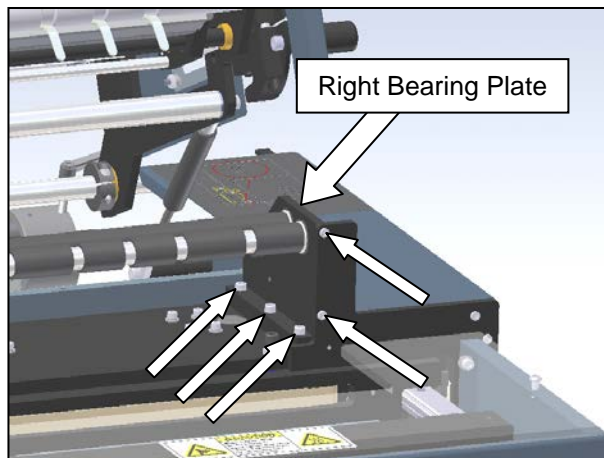

Figure 3-171. Right Bearing Plate and Screws
- Remove the right bearing plate by removing three screws from the base and two screws from the face plate (Figure 3-171). Slide the plate to the right to release the rollers from the bearing plate. (Note: the film feed roller will be free to dip on the right side if your model is equipped with an imprinter.)
- Reinstall the right bearing plate. Align the film feed roller with the bearing and slide plate into roller. (Note: if the model SX™ is equipped with a printer, the platen roller shaft also needs to be aligned with the right bearing plate rear bearing before mounting the plate to the machine.) Replace the five screws removed in step 5 (Refer to Figure 3-171).